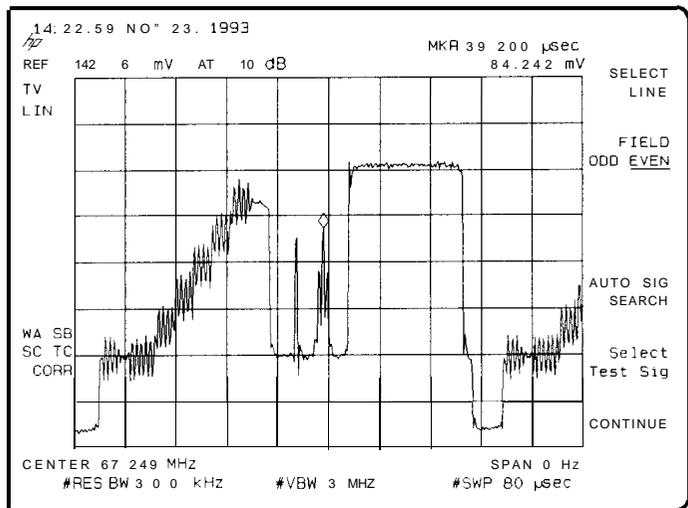
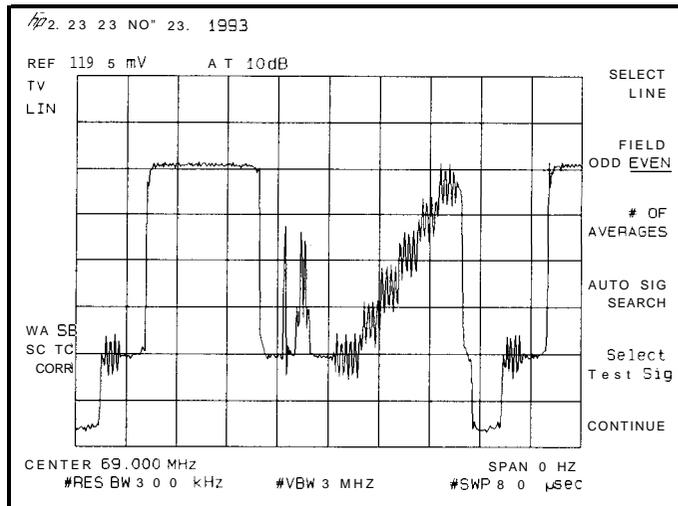

Figure 2-23. FCC Composite Test Signal
Figure 2-24. NTC 7 Composite Test Signal
2. The test signal is found automatically (if a test signal exists). The search starts at the default line number (line 18). If a test signal is not found, the search routine will stop at the first NTC 7 or FCC composite test signal it finds while counting down from line 22 to line 10. Figure 2-23 shows the FCC composite test signal; Figure 2-24 shows the NTC 7 composite signal.